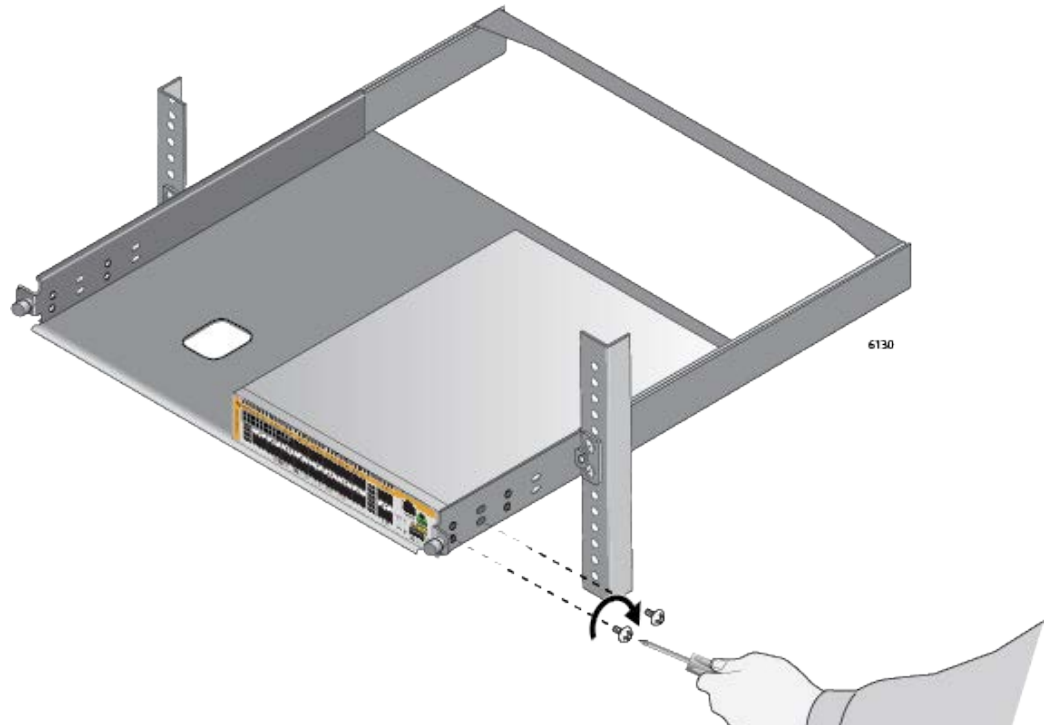

Figure 54. Securing the Switch to the RKMT-J15 Tray
9. Install two M4x6mm screws included with the RKMT-J15 rack mount kit to secure the switch to the tray. See Figure 54 on page 91.